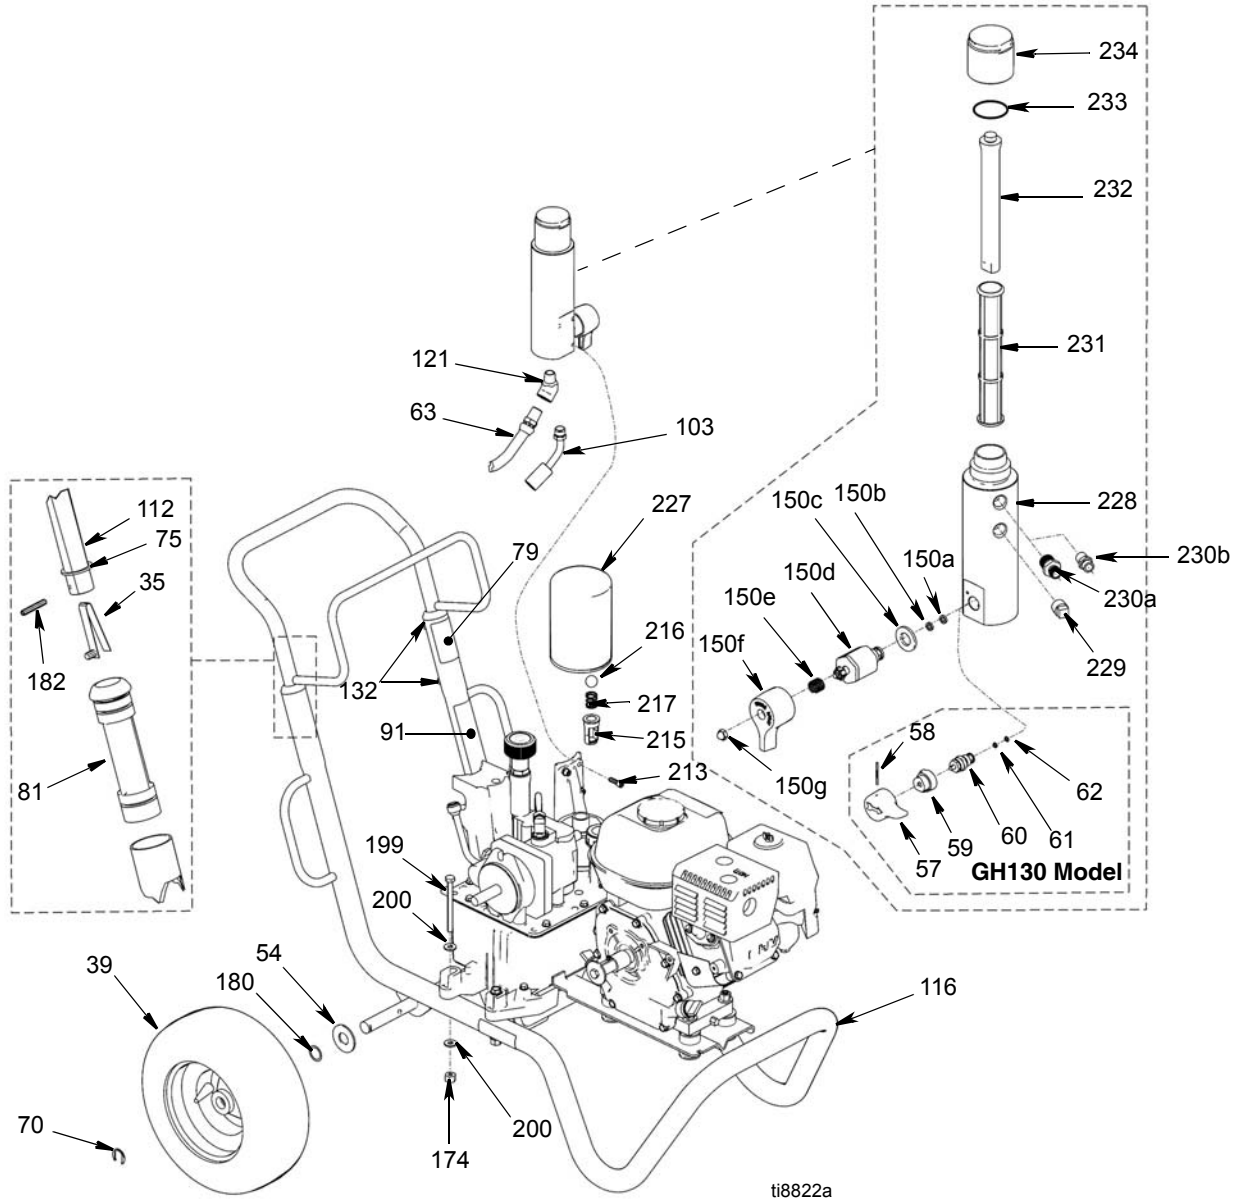

**FIG. 27**
- 8 (Fig. 27) Install suction hose (114) to bottom of pump (111).